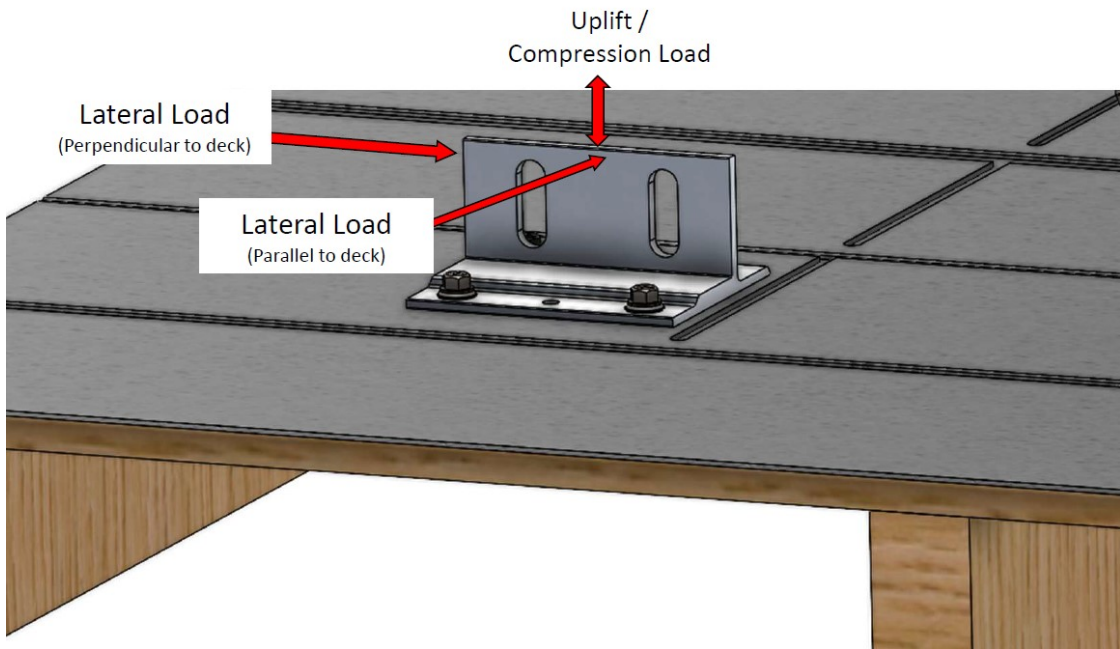

Figure 1.1: Splice Foot X: Force Loading Diagram (deck)
1. Figure 1.1: Splice Foot X – Force loading diagram (deck)
<p>1. Determined using NDS Eq. 12.2-2 with full thread engagement through 7/16" OSB. Includes 1.6 Cd for wind loads. Additional load duration factors may not be applied.</p> <p>2. Allowable lateral load assumes worst case loading at top of slots. Additional load duration factors may not be applied.</p> <p>3. Reference Figure 1.1 for load direction and application.</p> <p>4. The effect of bolt slippage has not been evaluated.</p>
<p>1. Determined using NDS Eq. 12.2-2 with full thread engagement through 7/16" OSB. Includes 1.6 Cd for wind loads. Additional load duration factors may not be applied.</p> <p>2. Allowable lateral load assumes worst case maximum height above roof deck. Additional load duration factors may not be applied.</p> <p>3. Reference Figure 1.1 for load direction and application.</p> <p>4. The effect of bolt slippage has not been evaluated.</p>